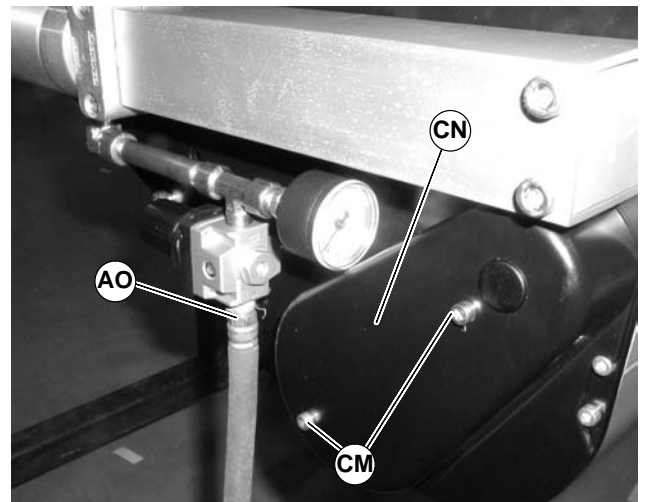

Figure 75
- Remove air supply and remove hose (AO of Figure 75) from center drive.
- Remove screws (CM of Figure 75) and guard (CN).